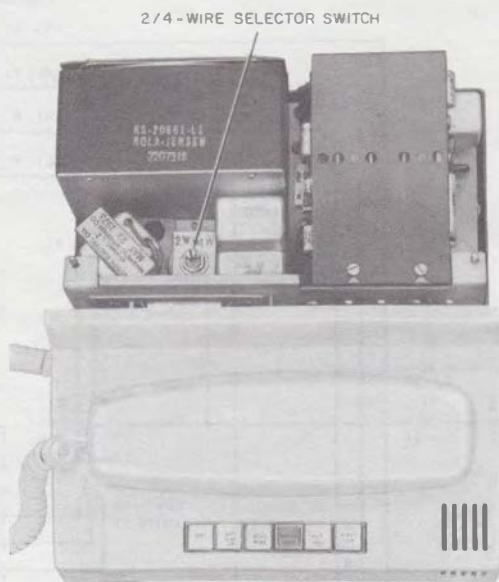

Fig. 6—73B Control Unit, Rear Housing Removed
3.08 When 4-wire operation is required, remove the rear housing assembly and with a screwdriver rotate selector switch to the 4W position (Fig. 6). The transmit line should be connected to the T and R leads from the control unit and the receive line should be connected to the T1 and R1 leads.
4.12 An internally mounted switch (Fig. 6) allows easy selection between 2- or 4-wire mode of operation. In the 4-wire mode, transmit and receive channels are each connected through separate pairs of the telephone line.